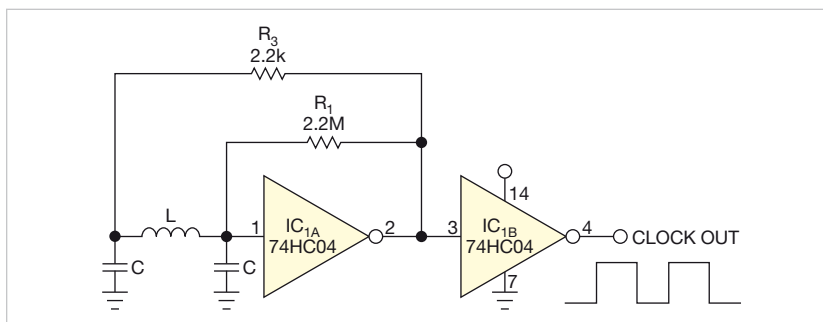
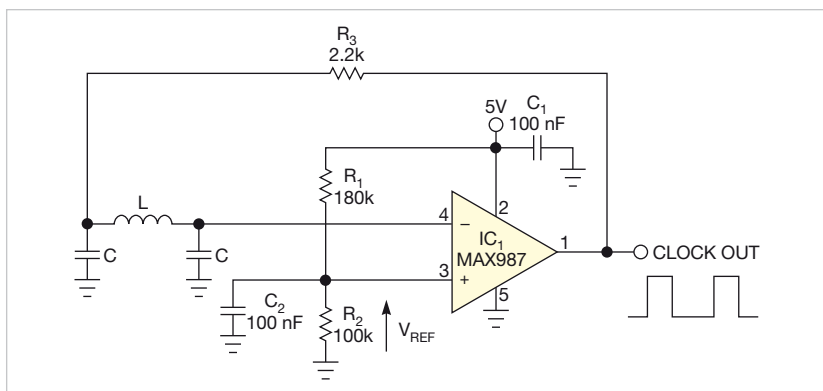

Figure 1 A typical Colpitts oscillator uses an inverter and has a fixed duty cycle.
Figure 2 A comparator lets you vary the duty cycle based on resistors R₁ and R₂.
Figure 2 Knowing whether the jitter (yellow trace) is random, periodic, or correlated to some other event in the system helps you determine the best ways to address the problem.
on lossy channels, PLL (phase-locked-loop) noise, EMI (electromagnetic interference), differences in transmitting and receiving threshold voltages, and ordinary delay mismatches in internal logic can generate jitter. The strategy for managing jitter differs, depending on the cause of the jitter. Proper shielding can help with EMI-induced jitter, but it cannot fix a noisy power supply. Knowing whether the jitter is random, periodic, or correlated to some other event in the system helps you determine the best ways to address the problem (**Figure 2**).
▶ The classic Colpitts oscillator circuit in **Figure 1** generates a clock signal with a fixed duty cycle. By replacing CMOS inverter gate IC_{1A} with a voltage comparator (**Figure 2**), you can obtain a more versatile and more useful clock generator. You can set not only the oscillation frequency but also the duty cycle. You must use the comparator in an inverting configuration, which introduces a 180° phase shift. That shift, along with an additional phase shift of 180° from the capacitor-input network, lets the circuit oscillate. The circuit com-